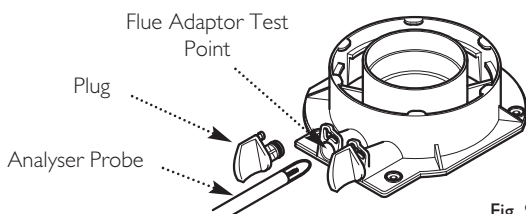

Fig. 92
7. Remove the plug from the flue sampling test point. Insert the analyser probe and allow sufficient time for the reading to settle (Fig. 92).